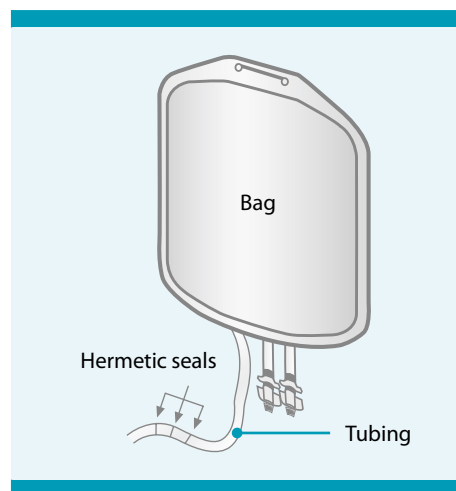

Figure 6.1: Sealing a bag
6. Seal off the tubing and separate the bags, leaving at least 15 cm of tubing on the Cell Preparation Bag No. 1 for further connections (see Figure 6.1). Use the heat sealer to produce three adjacent seals in the tubing. Make sure the seals are thoroughly established. Sever at the center seal. Keep the bag which contained the cellular starting product until the separation and final analysis of all cells have been accomplished.